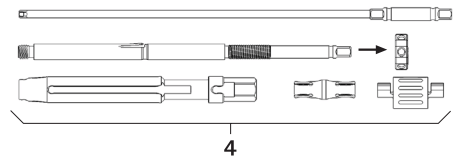

Fig. 2
- ▶ Disassemble reduction lever 4, see Fig. 2. Fully disassemble reduction lever and unbolt lock nut.